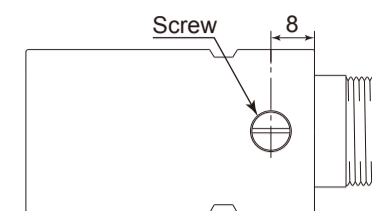

Fig. 4
- Remove the Grease Inlet Screw on the Reducer with a screw driver (Fig. 4).
- Mount the grease nipple on the top of the provided dispenser. And attach the grease nipple on the topped hole removed the thread in the step ② .